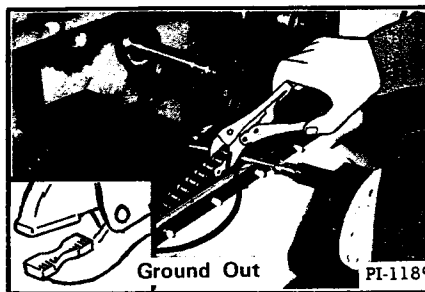

Fig. 94 Reconnecting Final Drive Chains
3. Reconnect the final drive chains. Use a gripping plier to press on the connector links (Figure 94). It will be impossible to force the connector link onto the pins with a single plier gripping action. Press, then release the plier and tighten the plier grip for another gripping action. Repeat this until the link has been forced all the way into position.